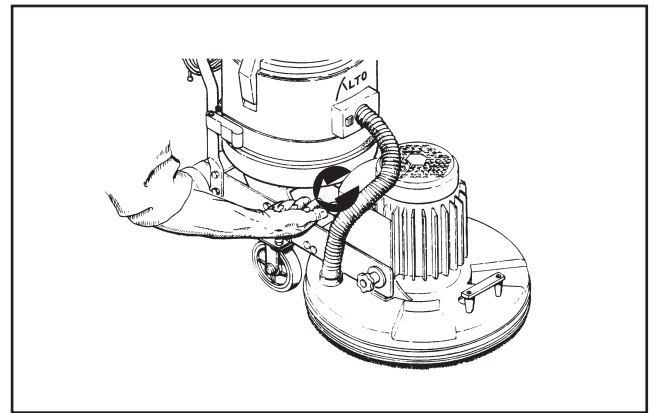

Figure 16
3. Loosen the head pressure until the rubber foot is not touching the mainframe. (See Figure 16) Tighten until the rubber foot touches the main frame. Adjust to suit by running the machine, then making adjustments either up or down to get sanding action desired.